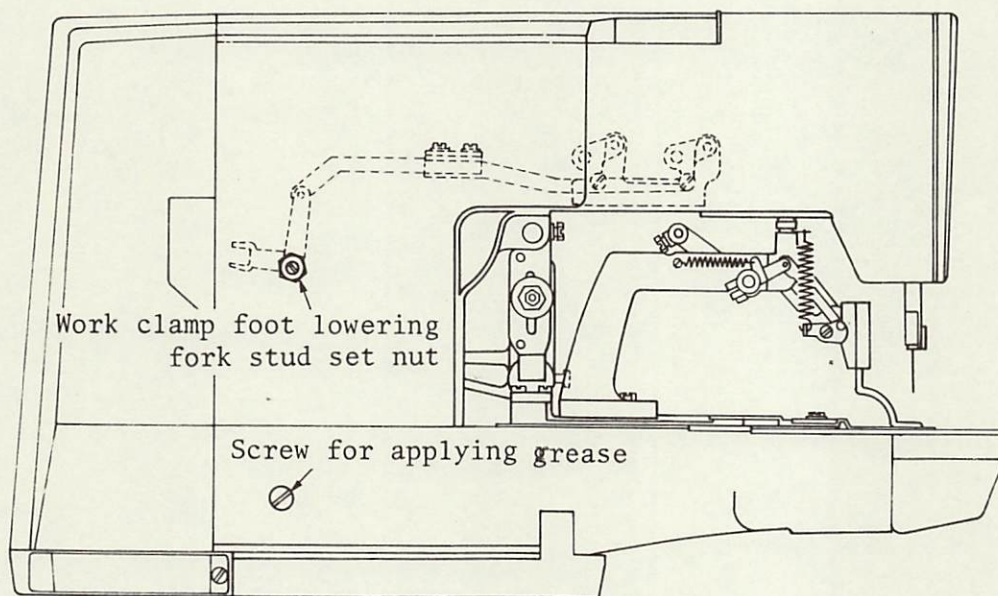

Fig.54
- \* To make this adjustment, loosen the work clamp foot lowering fork stud set nut and rotate the stud. (Fig.54)